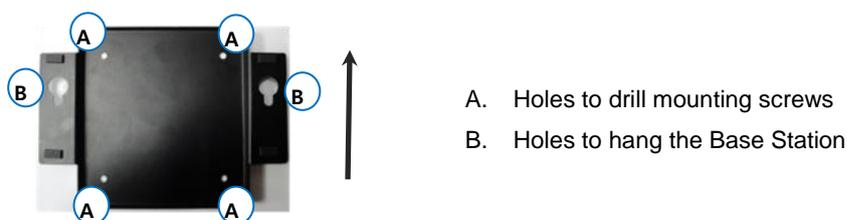

Figure 5-2. Wall-mount bracket on a wall
Step 3. Put the wall-mount bracket on the wall as shown in the Figure 5-2 to mark the location of the holes. The bracket surface with four **(A)** holes should be direct attached to the wall and two **(B)** holes should be shown on the upper side of the bracket. Mark four drill holes for mounting screws on the wall with a pencil.